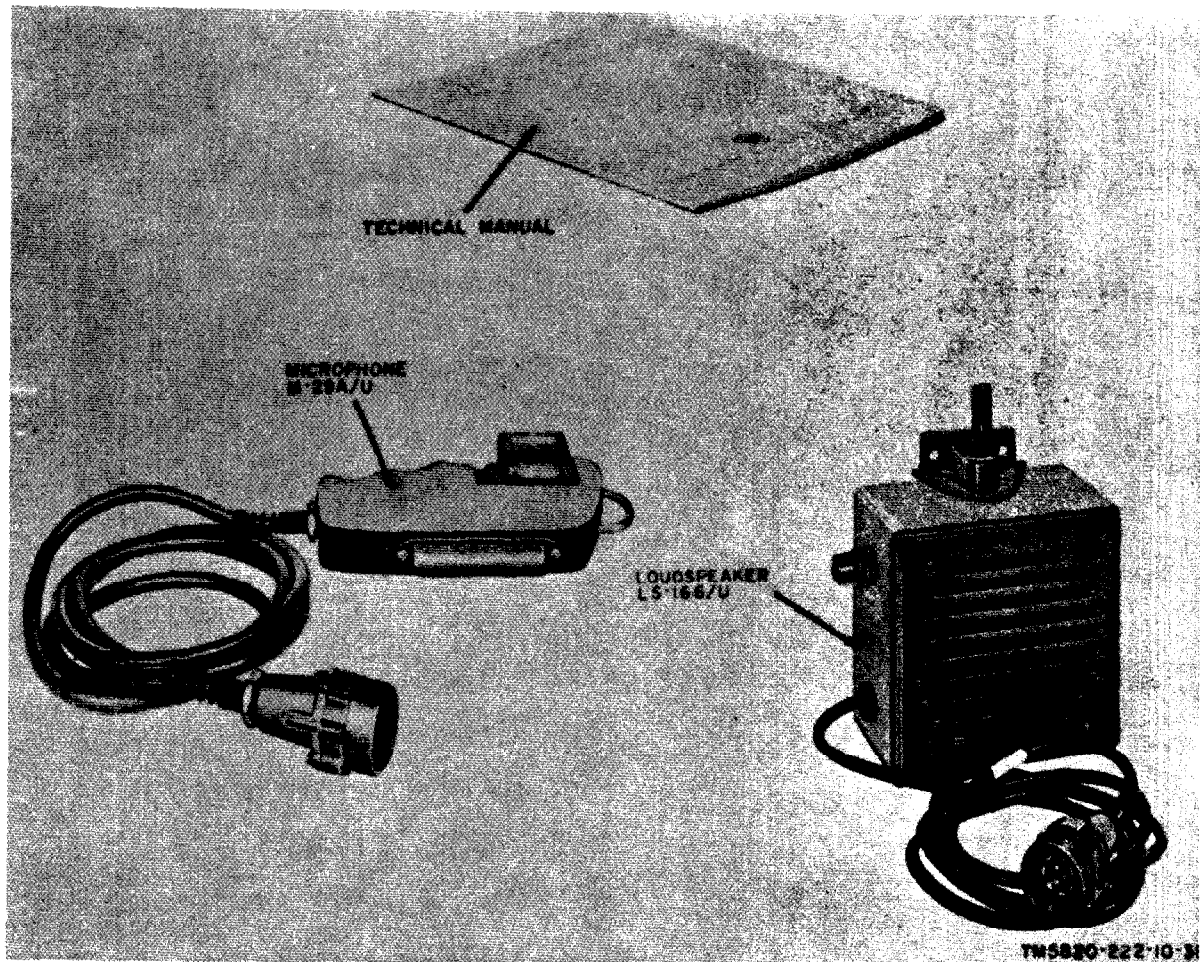

Figure 11. Microphone, technical manual, and loudspeaker.
c. *Loudspeaker (fig. 11).* The loudspeaker is a 4-inch unit. A 5-foot cord that terminates in a 10-pin plug is used to connect the loudspeaker to an AUDIO receptacle on the RT-
d. *Microphone M-29A/U (fig. 11).* The microphone element is housed in a plastic case. A push-to-talk switch is located on the side of the case. A connecting cord terminated in a 10-pin plug is used to connect the microphone to an AUDIO receptacle on the RT-323/VRC-24, RT-441/TRC-68, or radio set control.